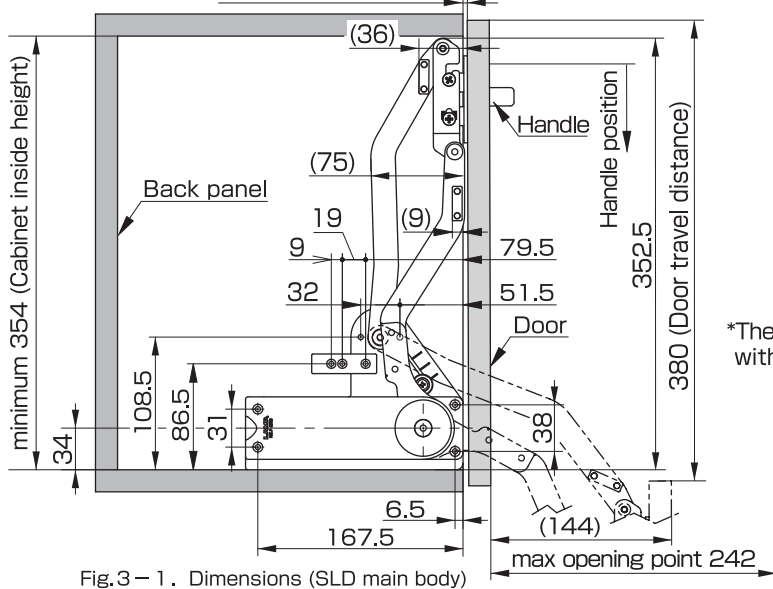
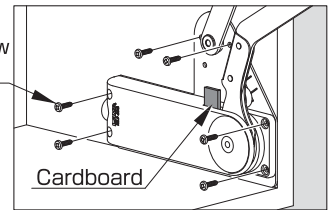

Fig. 3-1. Dimensions (SLD main body)
Fig. 4
- Line up SLD body ① and ② with the bottom and front of the cabinet and secure with screws ⑤ (Fig. 3-1 and Fig. 4).
- Hang the door through the long hole using a screw ④ in the top bracket ③ hole and tighten the screw.
- Secure assembly with a screw ④ through the bottom hole.
Remark: when installing the handle on the door, we recommend that it is installed in a position lower than bracket ③ as shown on Fig. 3-1.